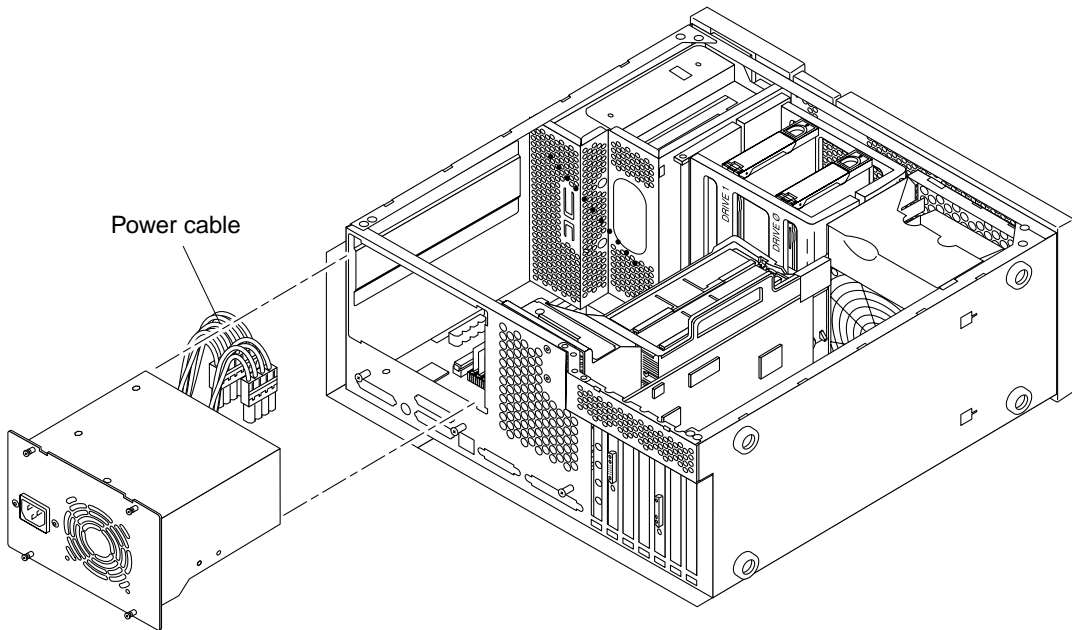

FIGURE 3-8 Replacing the Ultra 60 Power Supply
8. Replace the power supply as follows (FIGURE 3-8):